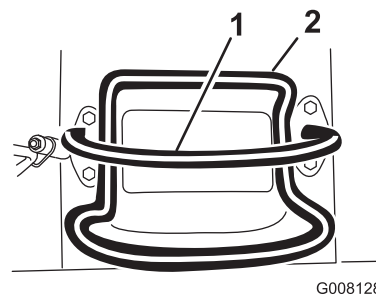
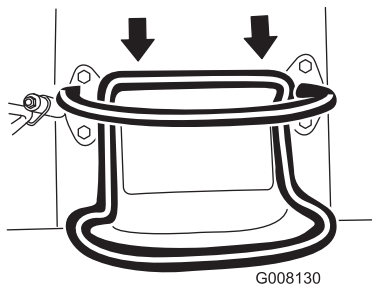

Figure 7
Figure 9
- To move rearward, move the traction control rearward (Figure 9). **When reversing, look behind for obstructions and keep your hands on the reference bar (Figure 7).**
- To stop, release the traction control (Figure 7).